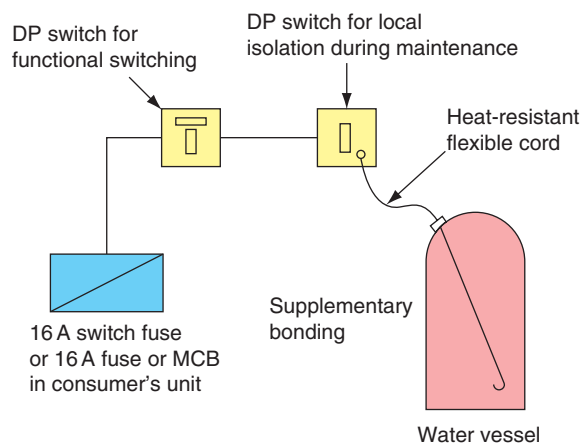

Figure 3.55 Immersion heater wiring.
Therefore, immersion heaters must be wired on a separate radial circuit when they are connected to water vessels which hold more than 15 litres. Figure 3.55 shows the wiring arrangements for an immersion heater. Every switch must be a double-pole (DP) switch and out of reach of anyone using a fixed bath or shower when the immersion heater is fitted to a vessel in a bathroom.